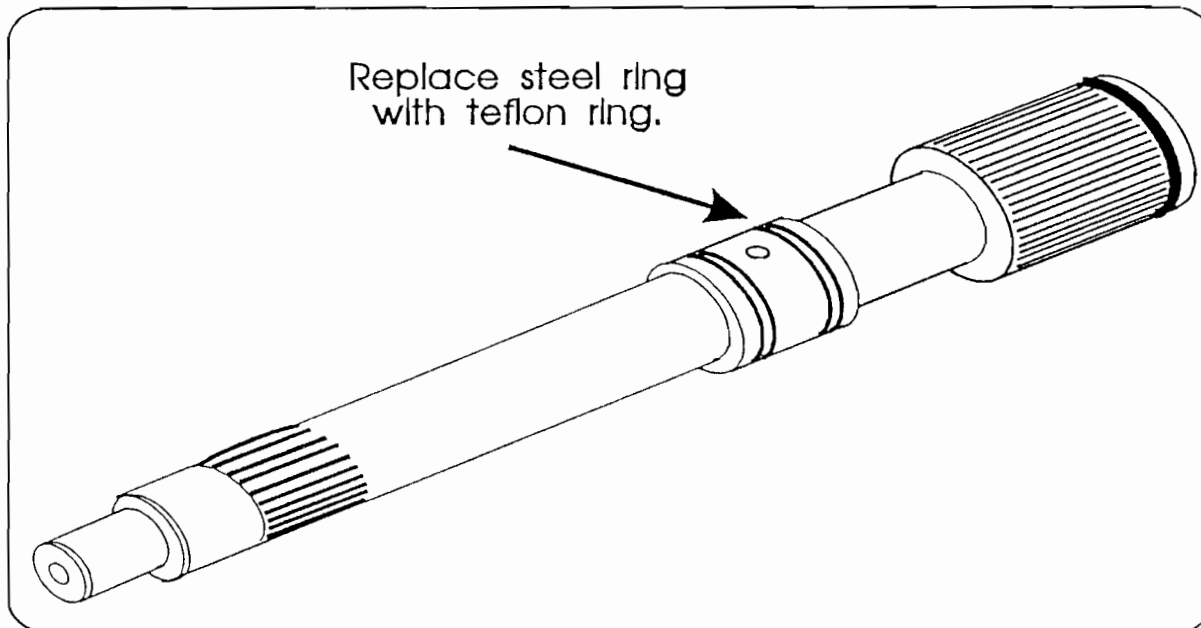

Figure 1.
**STEP #2.** Remove the rear metal turbine shaft ring and discard it. Replace the ring with one made of teflon. Make your own if neccessary. (See Figure 1.)